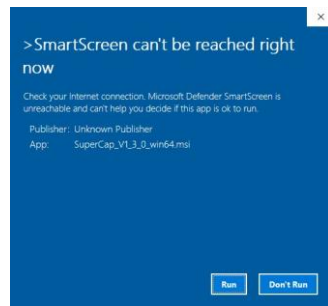

Figure 4-7: Welcome Screen
Step 2: A prompt message shown in **Figure 4-7** appears. Click **Run** to continue the installation process.